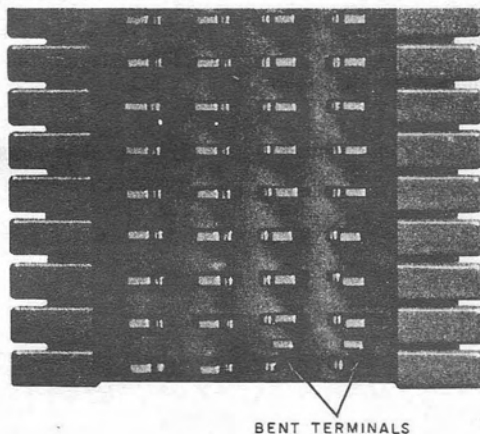
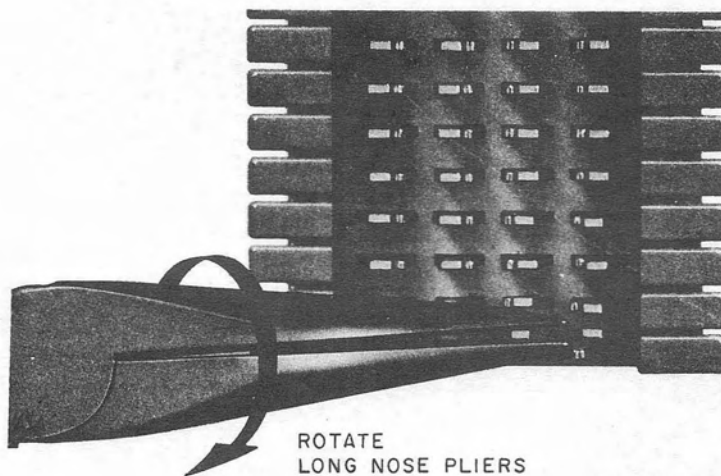

Fig. 19—Bent Terminals
Fig. 20—Straightening Bent Terminals
- 5.01 Terminals which have been bent or misaligned (Fig. 19) may be corrected by using long-nose pliers (Fig. 20). Bend the terminal until it is aligned with its mate or other terminals of the same row. **Take care not to move terminals in a direction which would spring or open the contact surfaces between the two halves.**